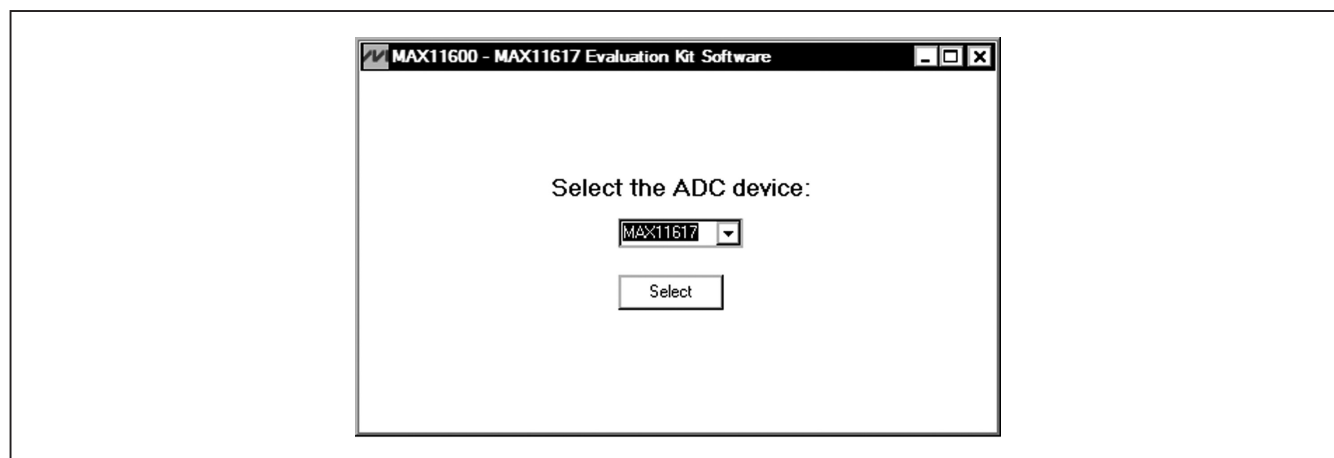
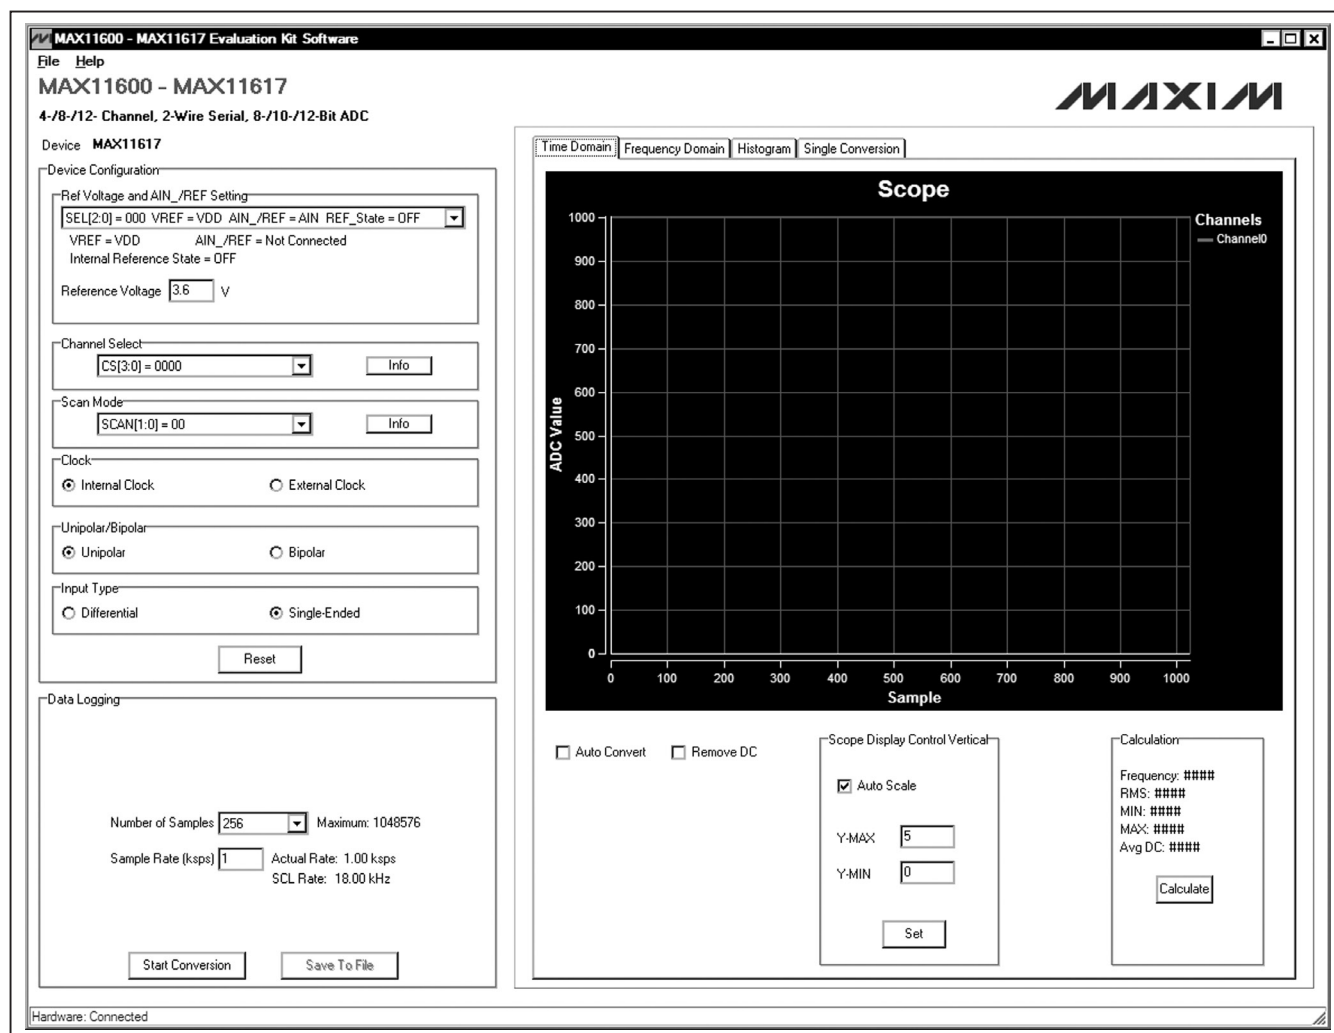
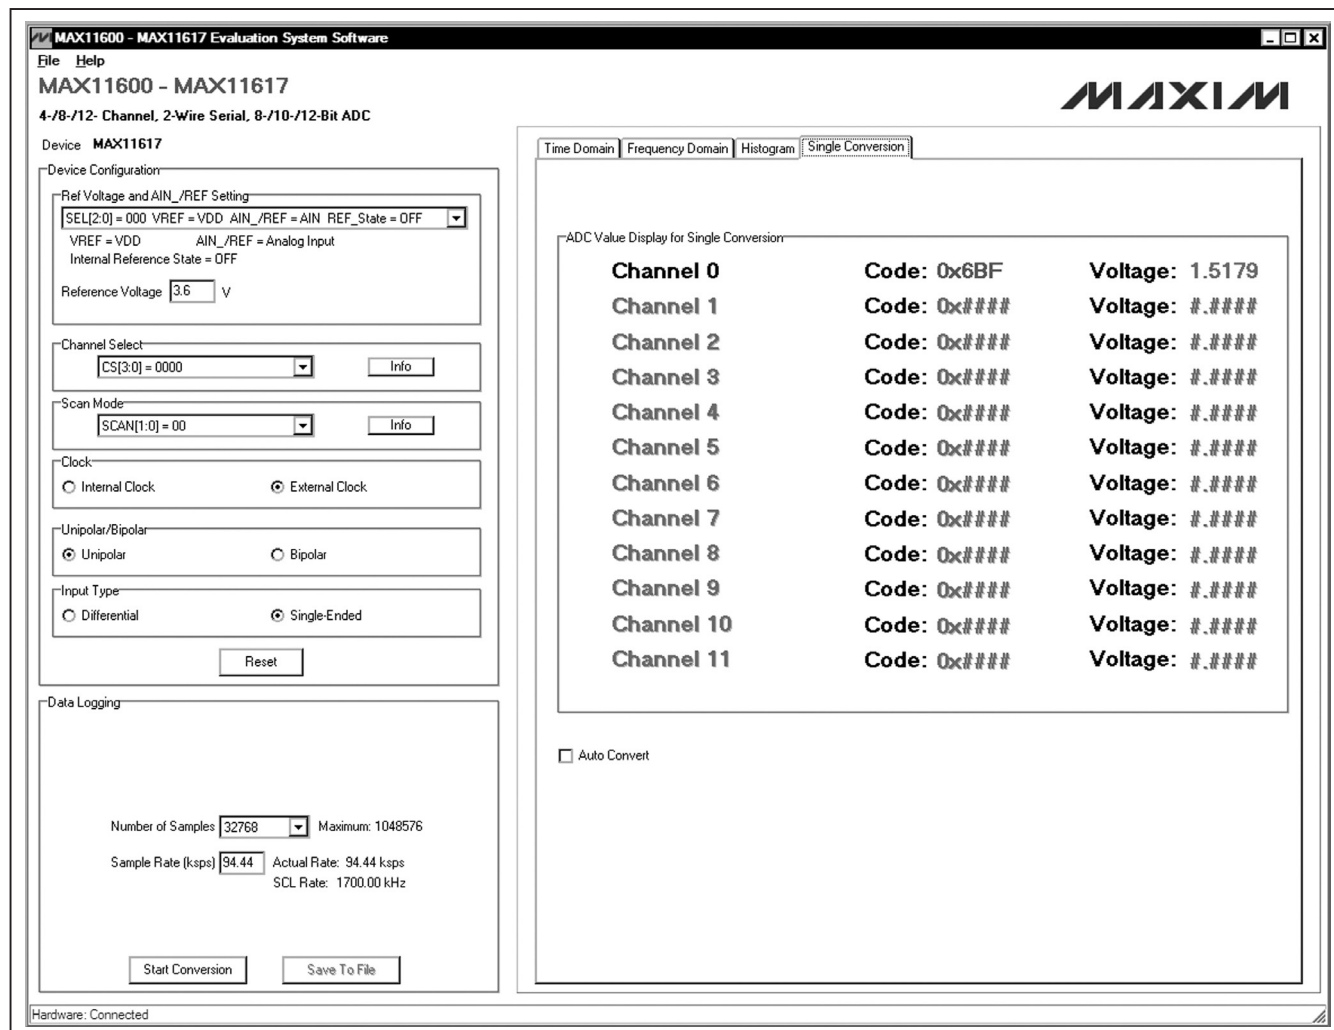

Figure 1. MAX11600-MAX11617 EV System Software Device Selection Window
Figure 2. MAX11600-MAX11617 EV System Software Main Window
Figure 8. Single Conversion Tab
- 11) Start the MAX11600-MAX11617 EV system software by opening its icon in the **Start | Programs** menu. The EV system software device-selection window appears, as shown in Figure 1. Select the appropriate device from the **Select the ADC device** drop-down list. The EV system software main window appears, as shown in Figure 2.
The MAX11600-MAX11617 EV system software supports all the MAX11600-MAX11617 ADC devices. When the EV system software starts up, select the appropriate device from the **Select the ADC device** drop-down list shown in Figure 1. Press the **Select** button to bring up the main software window.
The main window of the evaluation software (Figure 2) contains a **Device Configuration** group box, a **Data Logging** group box, and four tab sheets to display the sampled data.
The **ADC Value Display for Single Conversion** group box in the **Single Conversion** tab sheet (Figure 8) displays the **ADC Codes** and the calculated **Voltage** values for a single sample of all the channels that associate with the selected scan mode. Pressing the **Start Conversion** button in the **Data Logging** group box shown in Figure 2 updates the status of the **ADC Value Display for Single Conversion** group box.